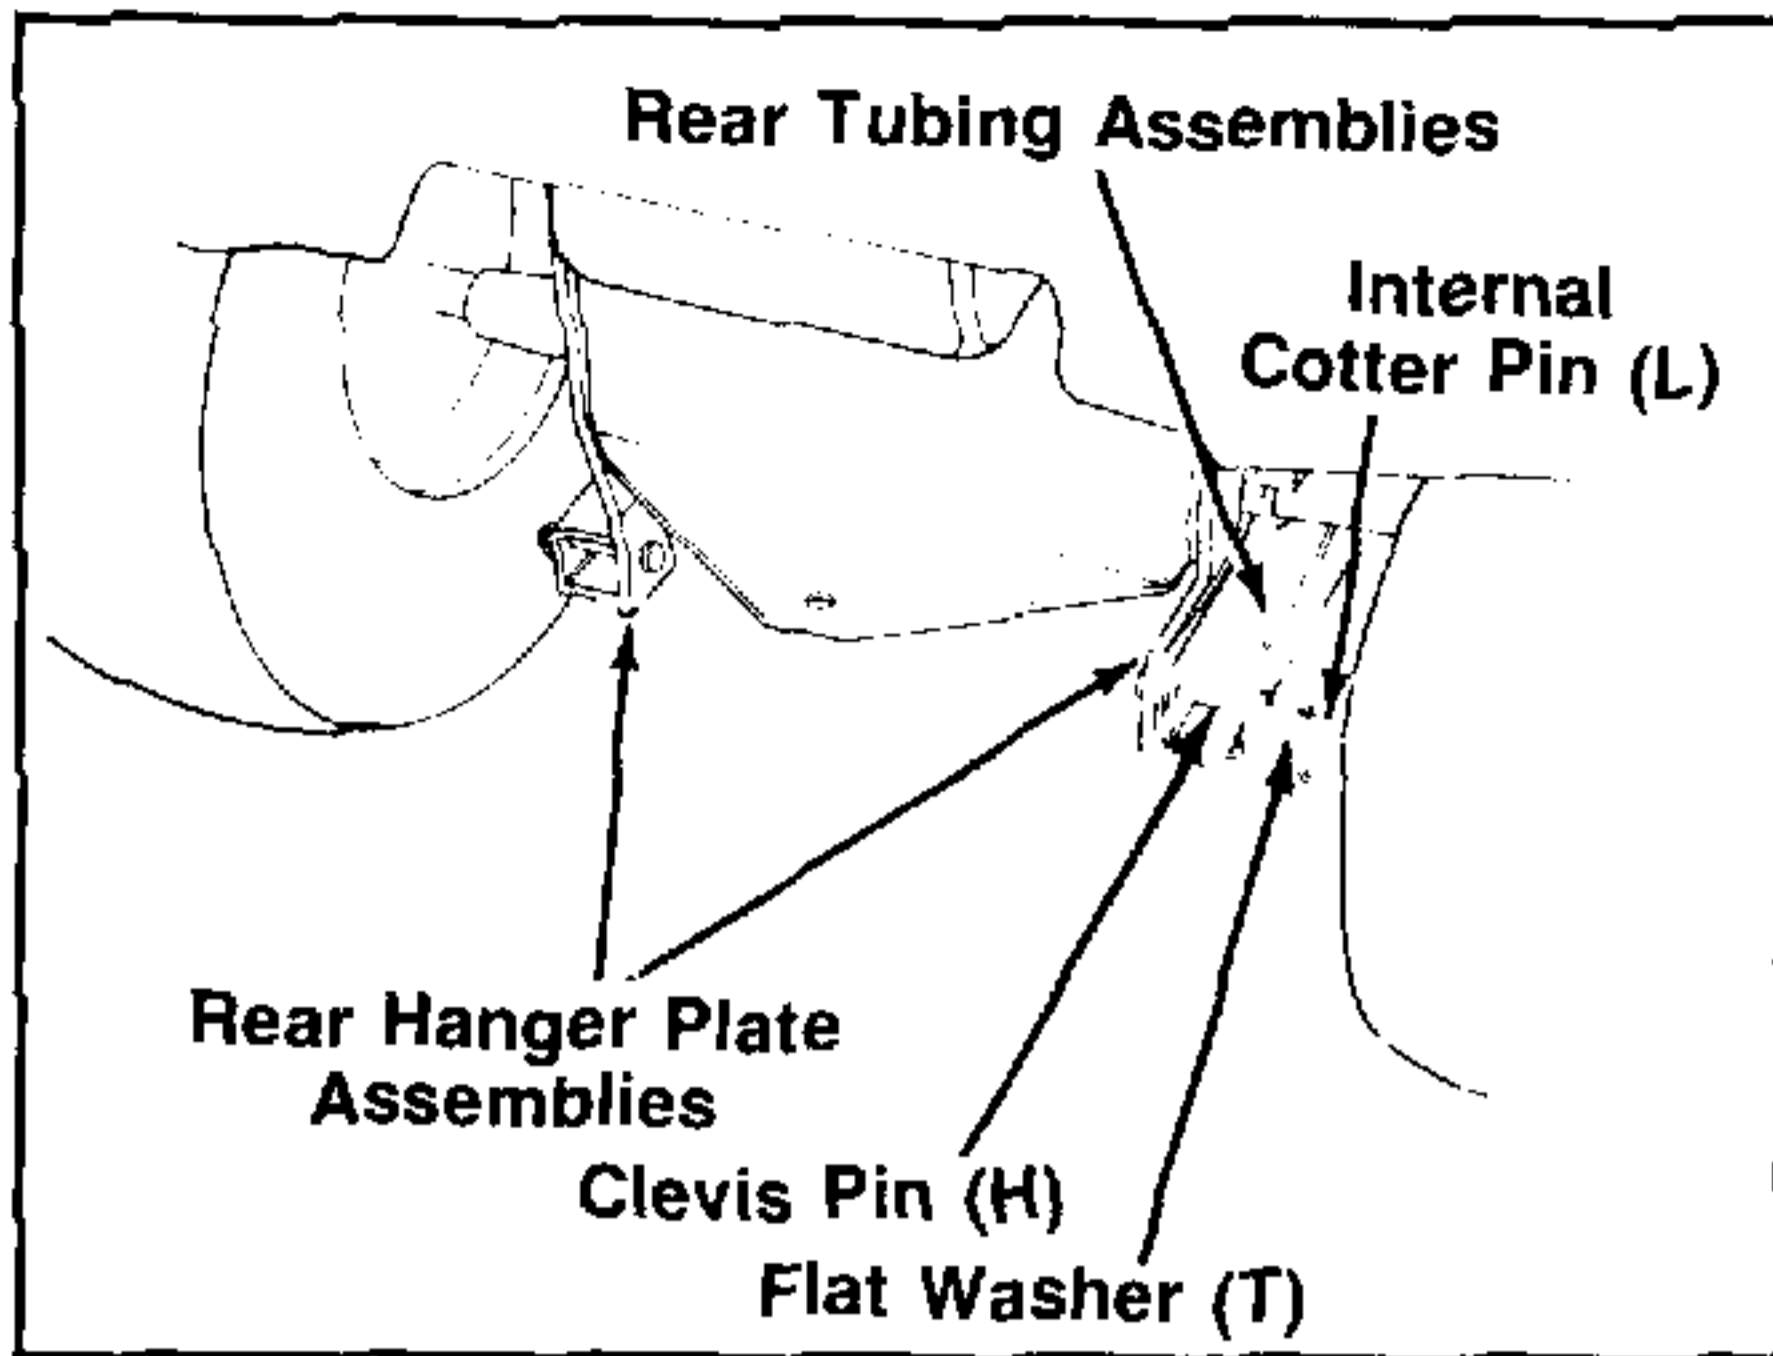

FIGURE 4.
5. Attach the rear tubing assemblies to the rear hanger plate assemblies. Secure with clevis pins (H), flat washers (T) and internal cotter pins (L). See figure 4.